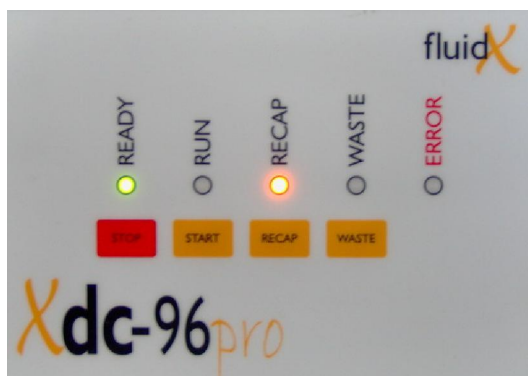

FIG 4.1 Xdc-96pro ready for use with recapping option selected.
- i. With Xdc-96 pro ready for use (see Fig 4.1/4.2/4.3) press WASTE key for 2 seconds to start the cap disposal procedure.
- i. With Xdc-96 pro ready to use (see Fig 4.1/4.2/4.3/4.4) press “STOP” key for two seconds to commence purge procedure.
- i. With Xdc-96 pro ready for use (see Fig 4.1/4.2/4.3) following decapping of a single row, press the “WASTE” key for 2 seconds to commence the cap disposal process.